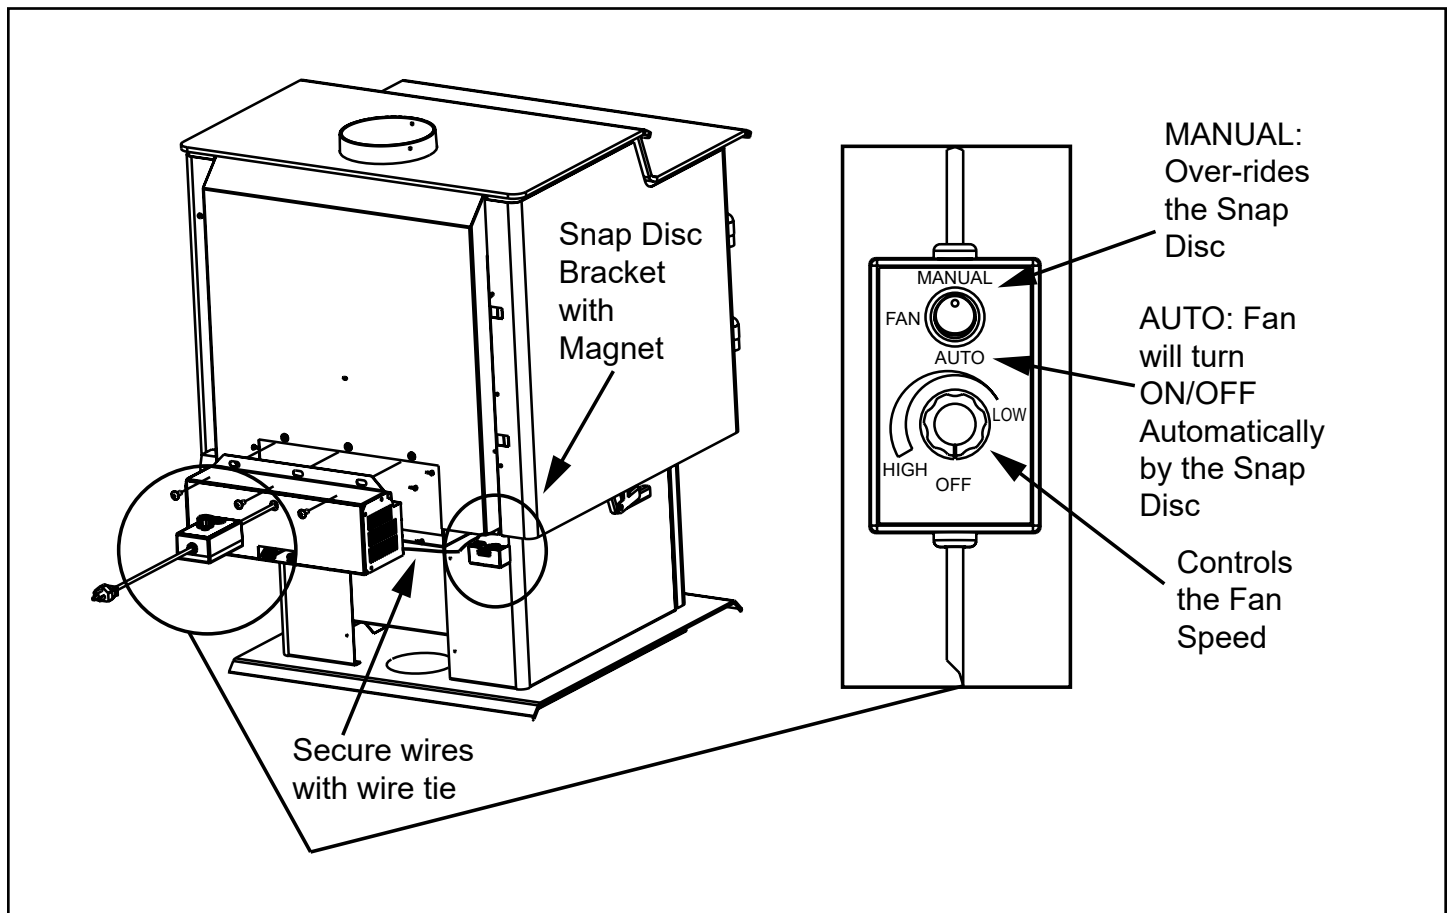

Figure 28.1
2. Align holes in mounting flange of blower with bolt holes in appliance. Blower should be positioned at bottom of rear outer skin as shown in **Figure 28.1**